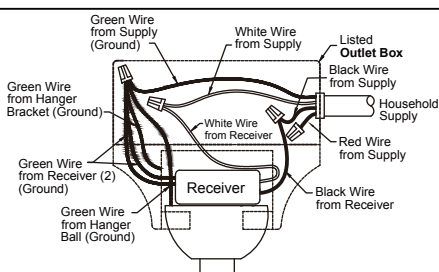

Figure 5
5. Thread downrod into the downrod support on top of the motor. Install the clevis pin by aligning the holes in the downrod support with holes in the downrod. Secure clevis pin with hairpin clip. Tighten the two set screws with nuts in the downrod support. (Figure 5)
- ☐ 4. After connections have been made, put the white and green leads to one side and the black leads towards the other side, the connection should be turned upward and carefully push leads into the outlet box. The wires should be spread apart with the grounded conductor and the equipment-grounding conductor on one side of the outlet box and the ungrounded conductor on the other side. (Figure 5)
- ☐ 5. To set the remote code same positions as the receiver with a small screwdriver or ball point pen (neither included), slide dip switches firmly up or down. (Figure 5)